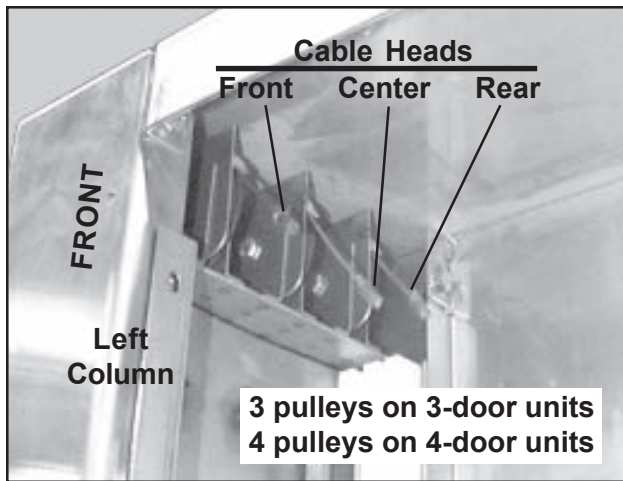

Figure 26. Cable Heads
10. In one column, locate the rear cable head that extends from the rearmost pulley at the inside top of the column (Figure 26).
12. In one column, locate the center cable head that extends from the center pulley at the inside top of the column (Figure 26). On 4-door units, locate the cable head on the appropriate pulley.
11. In one column, locate the front cable head that extends from the front pulley at the inside top of the column (Figure 26).